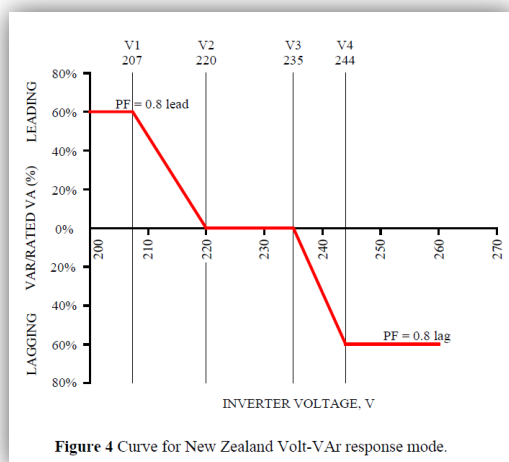
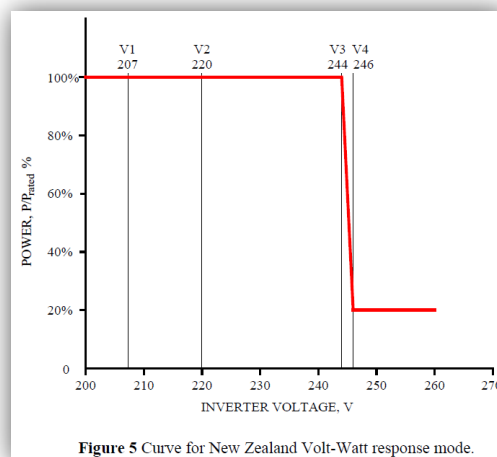

Figure 4 Curve for New Zealand Volt-VAr response mode.
Figure 5 Curve for New Zealand Volt-Watt response mode.
Volt response modes: Volt-VAr, Q(V) and Volt-Watt, P(V)	Applicability determined according to GREEN Grid traffic light system, Figure 3. GREEN Grid designed Volt-response curves shown in Figure 4 and Figure 5.